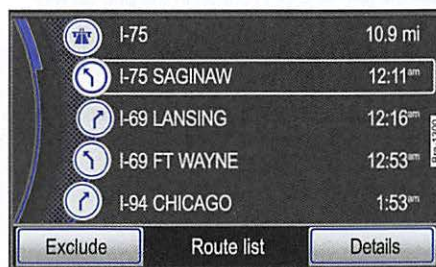

Fig. 68 Route list during active route guidance.
- The route list corresponding to the active route guidance is calculated and displayed ⇒ **fig. 68**.